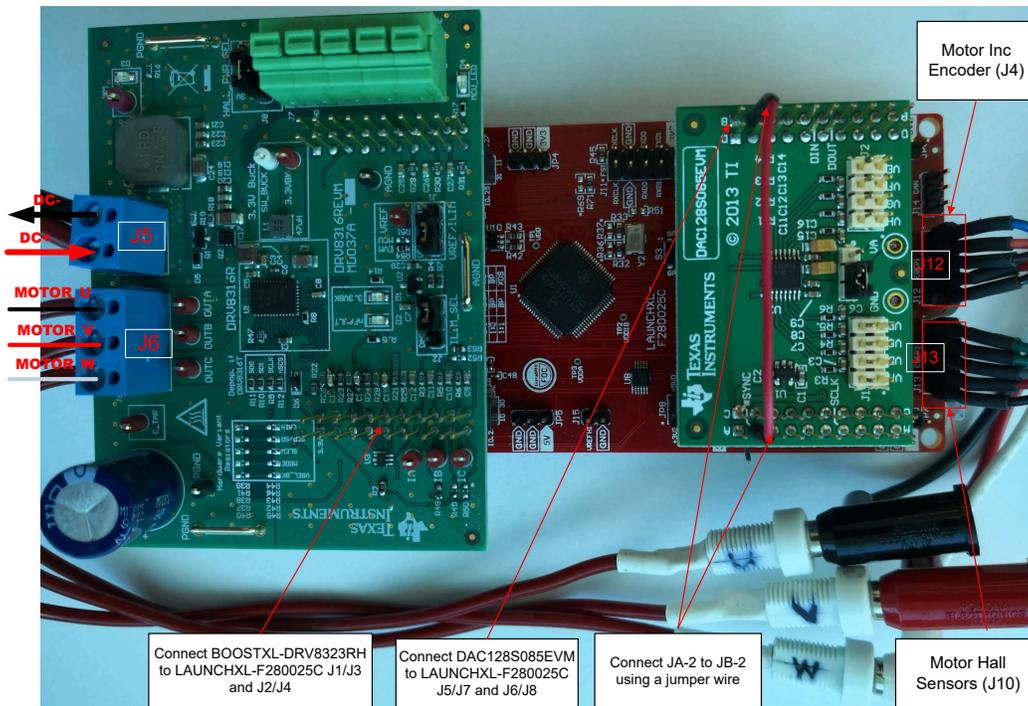

**Figure 3-14. LAUNCHXL-F280025C/F280039C/F2800137 Connected to the BOOSTXL-3PHGANINV and DAC128S085EVM**
- Make sure that the following items are completed as described below, and then connect the **BOOSTXL-3PHGANINV** to J1/J3 and J4/J2 of the **LAUNCHXL-F280025C**, **LAUNCHXL-F280039C**, or **LAUNCHXL-F2800137** as shown in **Figure 3-14**.
- Connect the motor, encoder, and Hall sensors to the **BOOSTXL-3PHGANINV** and the **LAUNCHXL-F280025C**, **LAUNCHXL-F280039C**, or **LAUNCHXL-F2800137** as described in **Table 3-2** and shown in **Figure 3-14**.